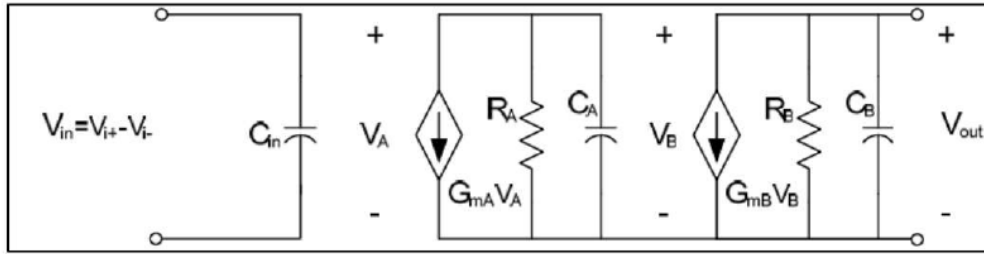

Figure 12. Operational Amplifier Macro-Model
- The frequency response of an operational amplifier will be analyzed using the macro-model of the opamp shown in **Figure 12**. The capacitor C_{in} models the input capacitance of the opamp, which is mostly gate to source capacitance. The sub-circuit consisting of G_{mA} , R_A and C_A model the gain and frequency response of the input stage. The capacitance C_A includes the input capacitance of the second stage and the output capacitance of the first stage. The components G_{mB} , R_B and C_B model the second stage. The load capacitor and resistor are also included in R_B and C_B .